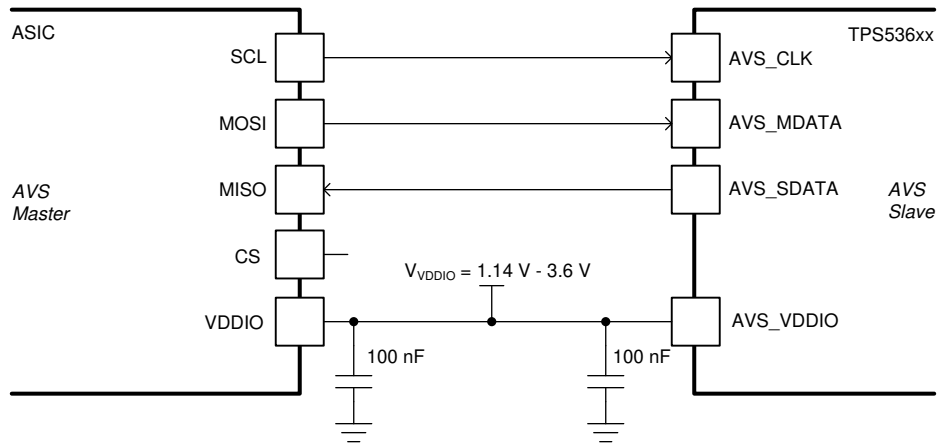

Figure 7-12. AVSBus connection diagram
Figure 7-12 illustrates how to interface the TPS53676 with a host ASIC or load with an integrated *Serial Peripheral Interface* (SPI) port. AVSBus is a point-to-point protocol and does not use a chip select (CS) pin. AVSBus uses push-pull signaling and requires a separate supply pin, AVS_VDDIO. Connect a well-regulated supply between 1.14 V and 3.6 V to AVS_VDDIO, and a local high quality ceramic bypass capacitor of 100 nF minimum effective capacitance. The input high and low thresholds are set relative to the voltage supplied at the AVS_VDDIO pin, as shown in the *Electrical Specifications* table. In applications which do not use AVSBus, ground the AVS_VDDIO, AVS_CLK and AVS_MDATA pins; float the AVS_SDATA pin.